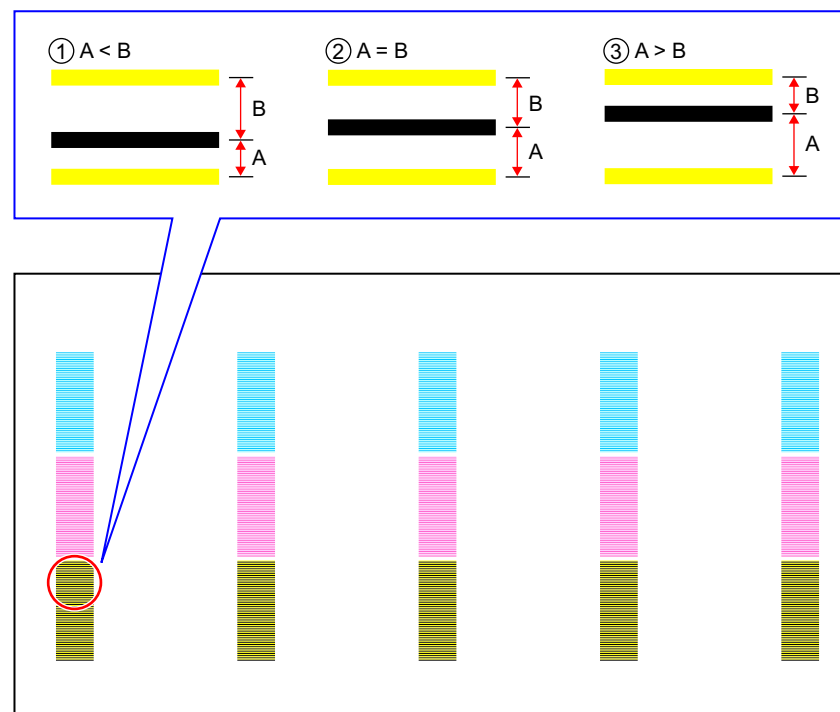

Figure 5-38. Adjustment Pattern
5. Measure the two intervals of dot-lines in any one of the patterns shown in Figure 5-38 with a calibrated magnifying glass.
- A<B shown in Figure 5-38: Move the H Adjust Lever downward.
- A>B shown in Figure 5-38: Move the H Adjust Lever upward.